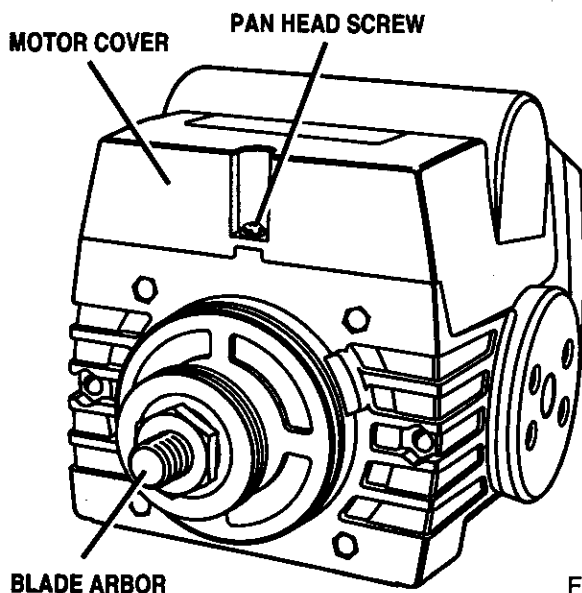

Fig. 2
- Remove the pan head screw above the blade arbor on the motor cover. Lift motor cover to expose switch. See *Figure 2*.